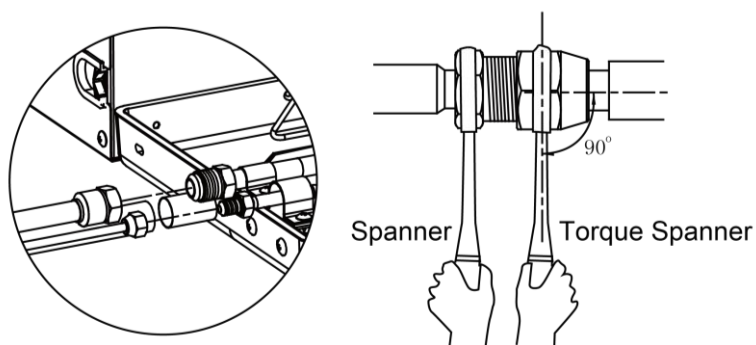

Fig.4.4.1
- (1) Conform to the following principles during piping connection: Connection pipeline should be as short as possible. The height difference between indoor and outdoor units should be as short as possible. Keep number of bends as little as possible. The radius of curvature should be as large as possible.
- (2) Weld the connection pipes between indoor and outdoor unit. Please strictly conform to the requirements for welding process. Rosin joints and pin holes are not allowable.
- (3) When laying the pipes, be careful not to deform them. The radius of bending parts should be more than 200mm(7-7/8in.). The pipes cannot be repeatedly bent or stretched, otherwise the material will get harden. Do not bend or stretch the pipe over three times at the same position.
- (4) Please use a torque wrench to connect union nut on the indoor unit. See Fig.4.4.1.